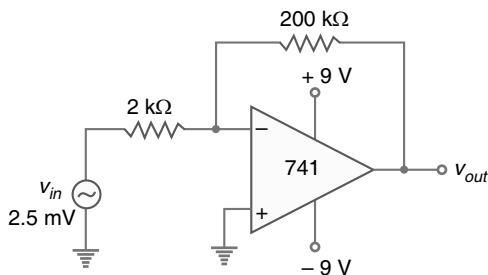

Fig. 23.50
**Example 23.26.** Determine the output voltage for the circuit of Fig. 23.50.